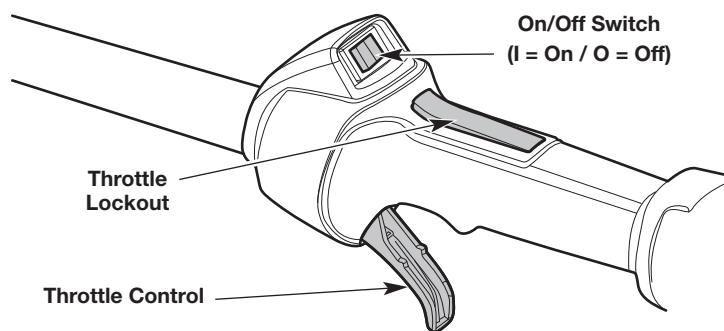

Fig. 11
NOTE: There is no need to turn the unit on. The On/Off switch is in the **On (I)** position at all times (Fig. 11).
4. Press and hold the throttle lockout. Squeeze and hold the throttle control (Fig. 11).
2. Press and hold the On/Off switch in the **Off (O)** position until the engine comes to a complete stop (Fig. 11).